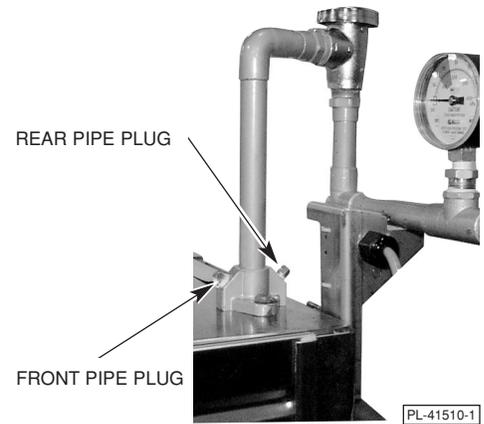
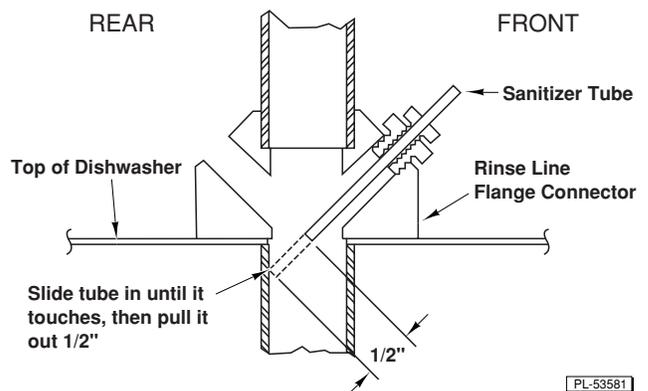
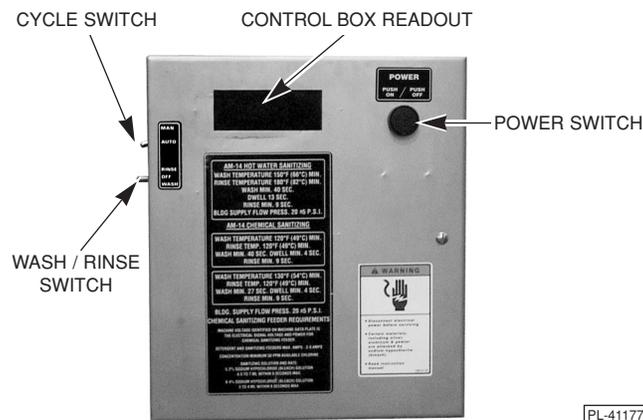

Fig. 8
Fig. 9
Fig. 12
The rinse line flange connector on top of the dishwasher has two $\frac{1}{8}$ " NPT pipe plugs (Fig. 8).
- Remove either front or rear plug (Fig. 8) for installation of the rinse aid dispenser tube unless a chemical sanitizer is to be installed. If installing a chemical sanitizer, use the rear hole for the rinse aid dispenser.
- Remove the front pipe plug (Fig. 8) for installation of the chemical sanitizer tube. To assure an unobstructed flow of sanitizer, locate the sanitizer tube in the center of water flow by drilling the sanitizer tube fitting so that its inside diameter is equal to the outside diameter of the tube. Slide the tube into the flange until it touches the opposite (rear) side and then pull it back out $\frac{1}{2}$ inch (Fig. 9).
Open the manual gas valve (if applicable). Push the POWER switch ON (Fig. 12). If all machine doors are closed, the fill cycle will begin automatically. During the fill cycle, the word FILL will flash intermittently on the control box readout (Fig. 12). **NOTE:** If the fill cycle did not begin automatically, make sure that the CYCLE SWITCH (Fig. 12) is on AUTOMATIC and the WASH / RINSE switch (Fig. 8) is OFF.
When the **CYCLE SWITCH** (Fig. 12) is set on **AUTOMATIC**, the wash and rinse cycles begin automatically. The wash cycle is initiated when the machine doors are closed. The rinse cycle begins when the wash cycle is completed. **NOTE:** When the **CYCLE SWITCH** is set on **AUTOMATIC**, the **WASH / RINSE** switch (Fig. 12) must be **OFF**.